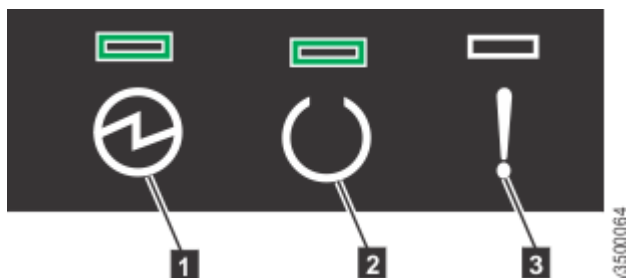

Figure 35. Expansion enclosure LEDs
2. From the rear of the rack, check the LEDs on each expansion enclosure (see Figure 35 on page 74).